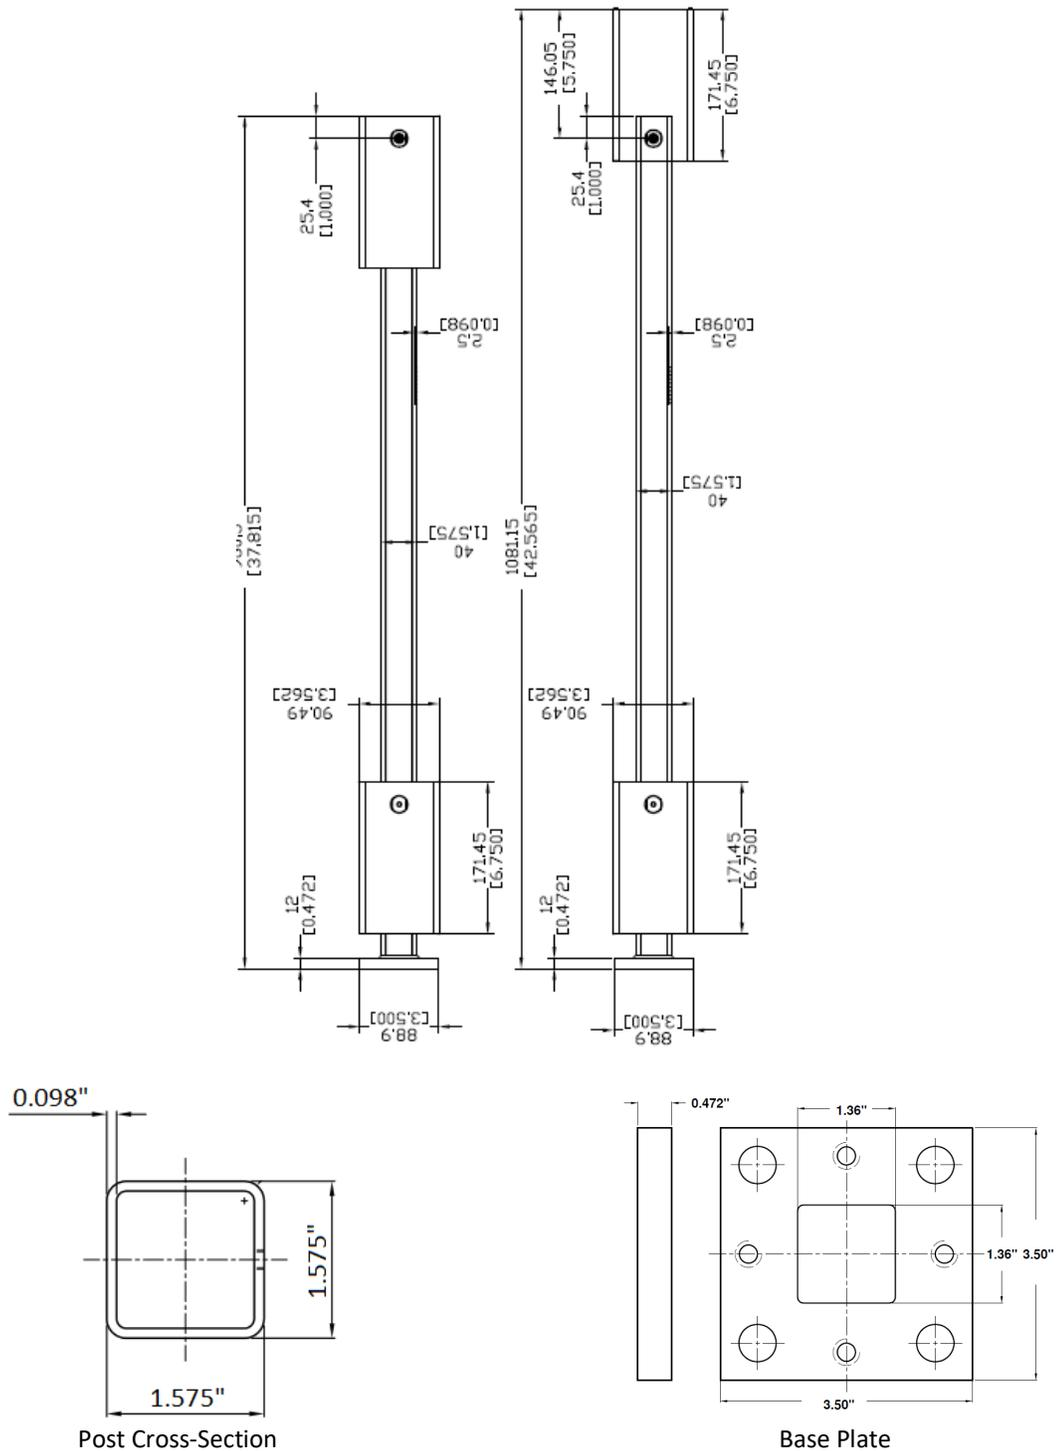

FIGURE 2 – ADVANTAGE V2 POST MOUNT
3.4.1 Post – 1.575-inch-square x 0.137-inch-thick hollow steel tube (See Figure 2).
3.4.2 Base Plate – 3.5-inch-square x 0.472-inch-thick steel plate with (4) 0.52-inch-diameter holes at each corner (See Figure 2).